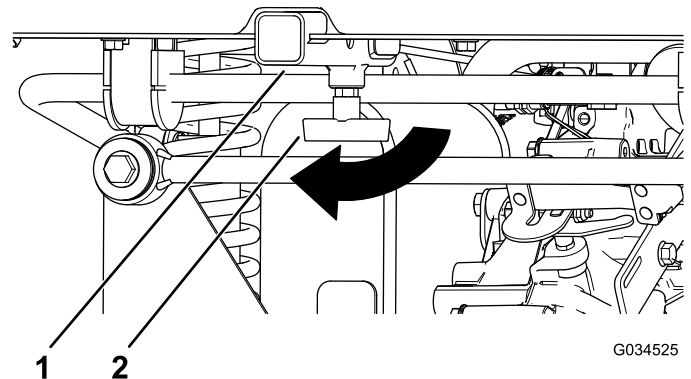

Figure 5
5. Loosen the "T" handle on the receiver tube (Figure 5).